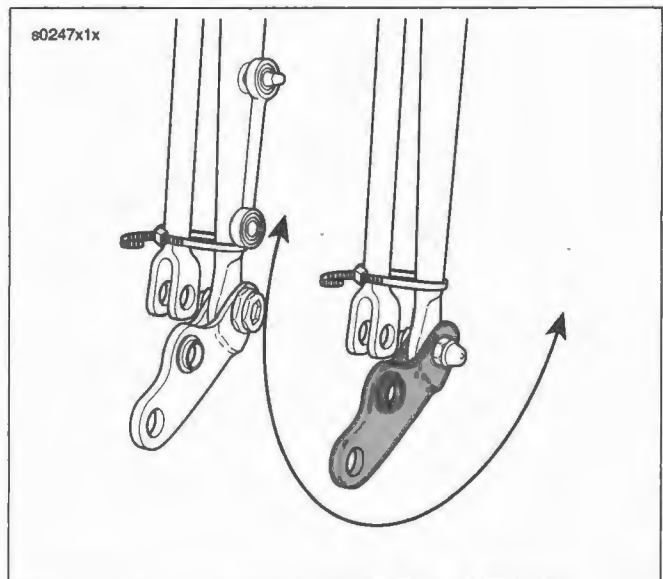

Figure 1-44. Rocker Rotation
10. See Figure 1-44. Using a dial or beam type torque wrench, rotate the rigid fork pivot stud and rocker through the arc shown. The torque reading should be 25-35 **in-lbs** (2.8-4.0 Nm).